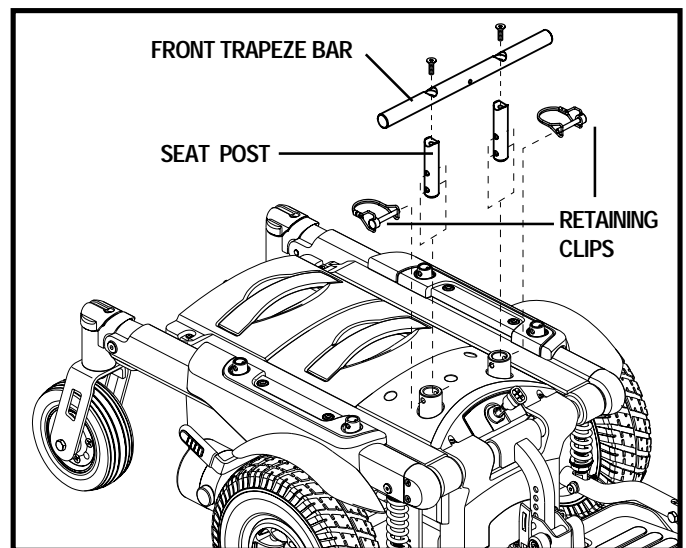

Figure 15. Front Trapeze Bar Height Adjustment
You can change the seat height to one of two positions in 1-in. increments by raising the front trapeze bar and side frame handles. See figures 15 and 16. If you raise or lower either the front trapeze bar or the side frame handles, you can also change the seat base angle (dump).
4. Loosen the screws that attach the front trapeze bar and side frame handles to the seat posts. See figures 15 and 16.